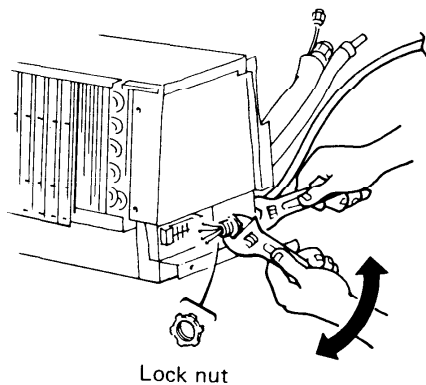

Fig. 16
- f) Secure the conduit connector to the electrical component box with a lock nut. Fig. 16